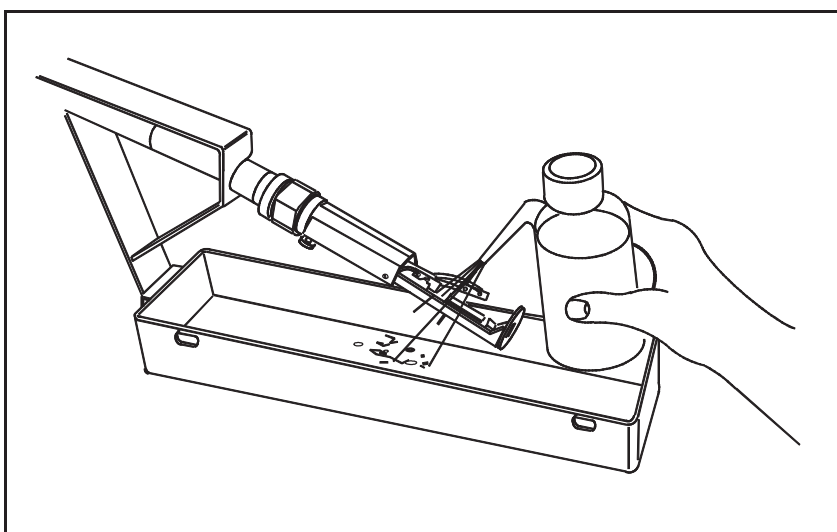

Figure 6-8. Cleaning the Printhead
7. Ensure the printhead is pointed down into the grounded service tray. Flush away contaminants using the recommended VIDEOJET cleaning solution or make-up fluid (refer to Figure 6-8).